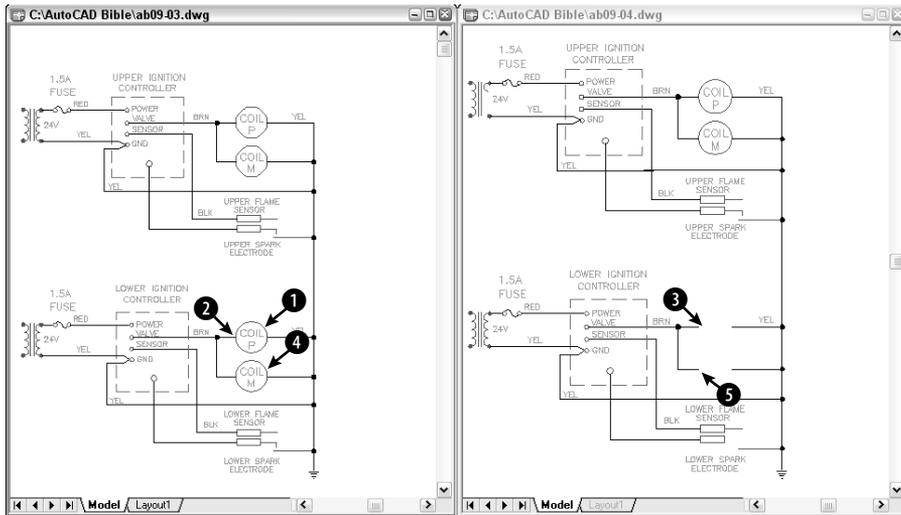

Figure 9-7: To copy objects from one drawing to another, display them both on the screen together. (The drawings may appear reversed on your screen.)
2. Choose Window ⇨ Tile Vertically. This displays the drawings side by side, as shown in Figure 9-7.
4. Pick the circle at ❶ and the two lines of text inside it.
6. At the Specify base point: prompt, pick the endpoint at ❷ in Figure 9-7.
7. Click anywhere in `ab09-04.dwg` to make it the current drawing. Right-click and choose Paste from the shortcut menu. At the Specify insertion point: prompt, pick the endpoint at ③ in Figure 9-7 to paste the objects.
8. Click in `ab09-03.dwg`. Press Esc to clear any grips. Pick the circle at ④ in Figure 9-7. (Don't include the text this time.) Click again and hold the mouse button on the circle, but not on the grips, until you see the pointer arrow with the rectangle. Drag the circle to ⑤ in Figure 9-7. As you can see, you have no way to precisely place the circle.
9. Click in `ab09-03.dwg` again. This time pick both lines of text inside the circle at ④. Right-click and choose Copy with Base Point. At the Specify base point: prompt, pick the endpoint at the left quadrant of the circle.